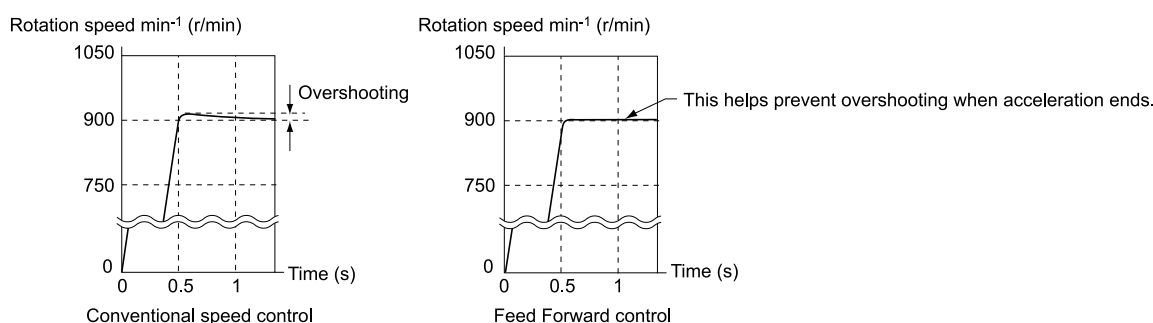
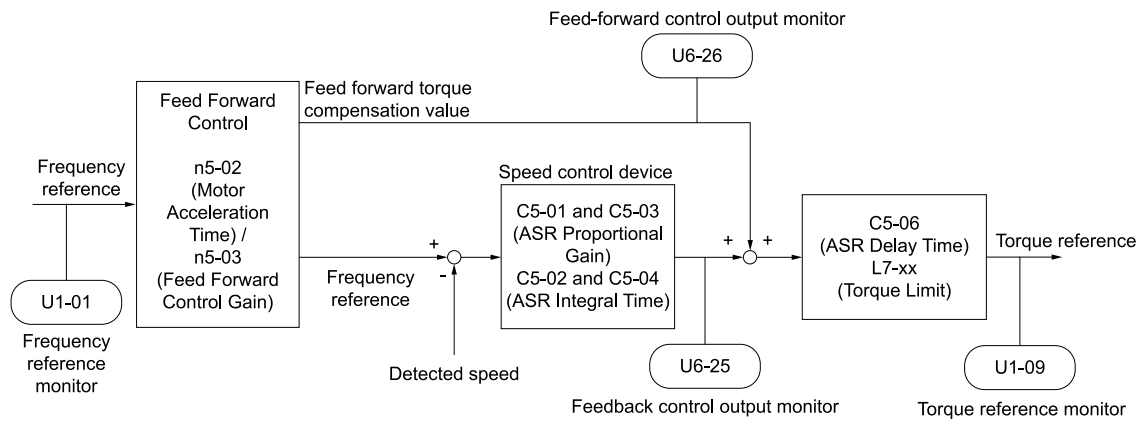

Figure 11.97 Suppress Overshooting with Feed Forward Control
Figure 11.98 Setting Feed Forward Control
Increasing the values set in  $C5-01$  and  $C5-03$  [ASR Proportional Gain] is effective in applying feed forward control to machines with low rigidity for which hunting and vibration are likely to occur or to machines with significant inertia. Applying this function while using CLV control also helps prevent overshooting. Refer to Figure 11.97. Refer to Figure 11.98 for more information about parameters related to Feed Forward control.
- If the inertia tuning process cannot be performed, refer to Figure 11.98 and set the parameters related to Feed Forward control individually.